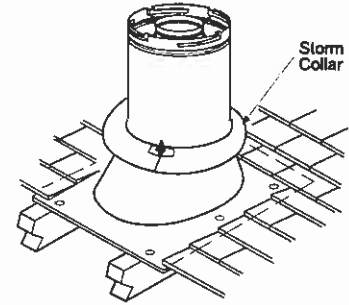

FIGURE 21
J. Install the storm collar - Install the storm collar, supplied with the flashing, over the vent/flashing joint. See *Figure 21*. Loosen the storm collar screw. Slide collar down until it meets the top of the flashing. Tighten the adjusting screw. Apply non-combustible caulking or mastic around the circumference of the joint to provide a water tight seal.